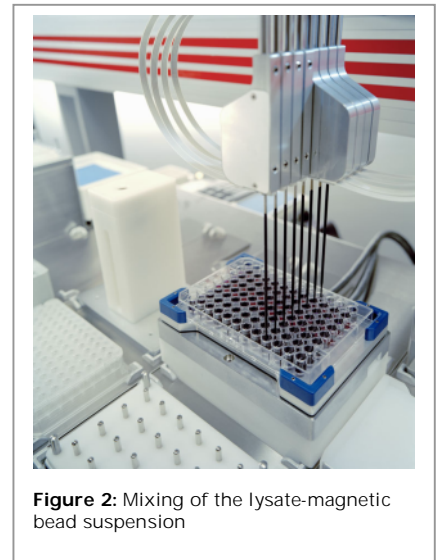

Figure 1: Reagent rack with stirrer for magnetic bead solution
- Reagent rack with stirrer for magnetic beads (Figure 1)